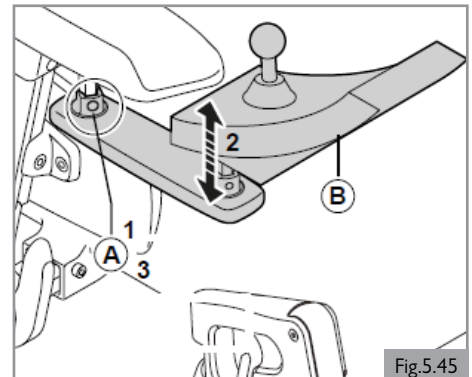
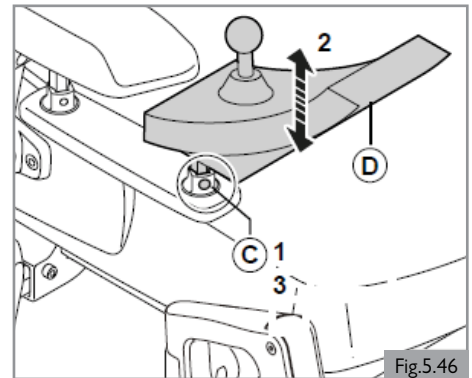

Fig.5.45
Fig.5.46
1. Loosen (A) by one turn.
2. Adjust (B) to the desired position.
3. Tighten (A). See section 9 for specified torque values.
Height of the controller (1) (Fig. 5.45)
Height of the controller (2) (Fig. 5.46)
1. Loosen (C) by one turn.
2. Adjust (D) to the desired position.
3. Tighten (C). See section 9 for specified torque values.